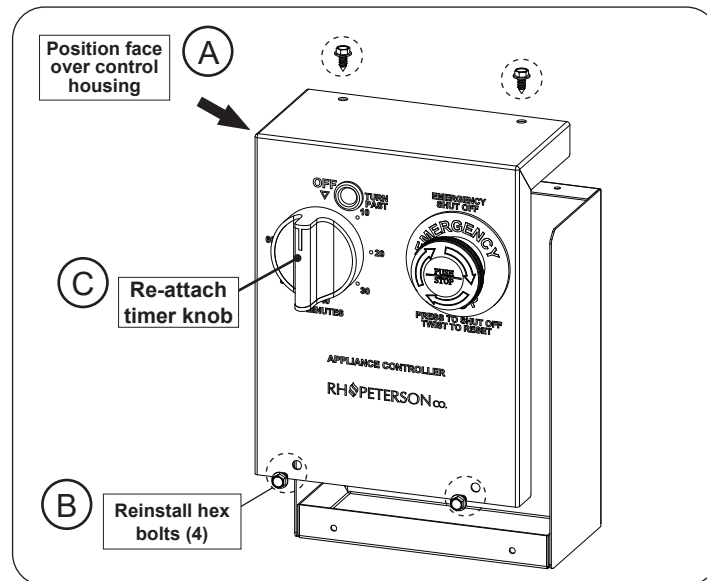

Fig. 4-2 Re-install face plate
3. Re-install the face plate as shown in Fig. 4-2 and secure into place with hex bolts (4), then reattach the timer knob with its set screw.